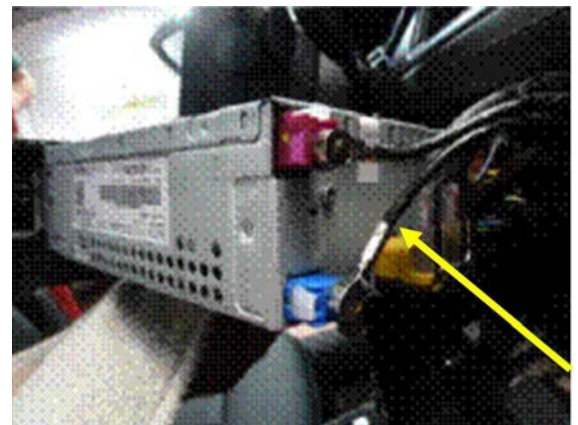

Figure 2. Blue FAKRA connector for GPS
4. Move the connector on the back of the MMI main unit (Figure 2) and observe whether the value of the two MVBs change on the display: